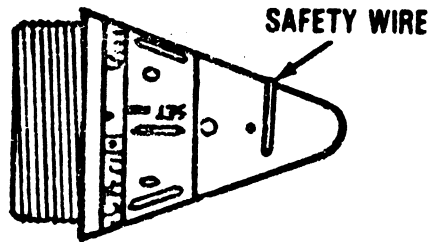

Fig 3-14. M84 fuze.
- (2) The M84 and M84A1 fuzes (fig 3-14) are powder-train time fuzes used with the M301 series illumination cartridges. The fuze can be set from 0 to 25 seconds (M84) or 0 to 50 seconds (M84A1). The correct setting is obtained from range tables and applied using an M25 fuze setter. The safety wire must be removed before firing.